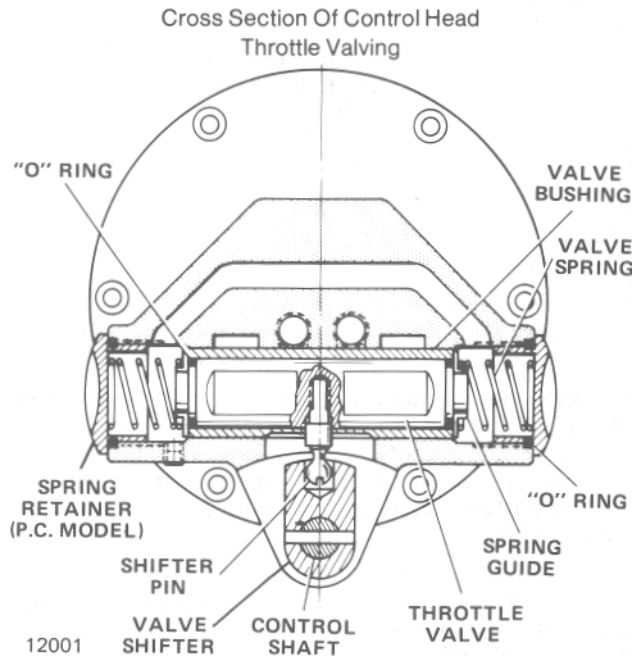
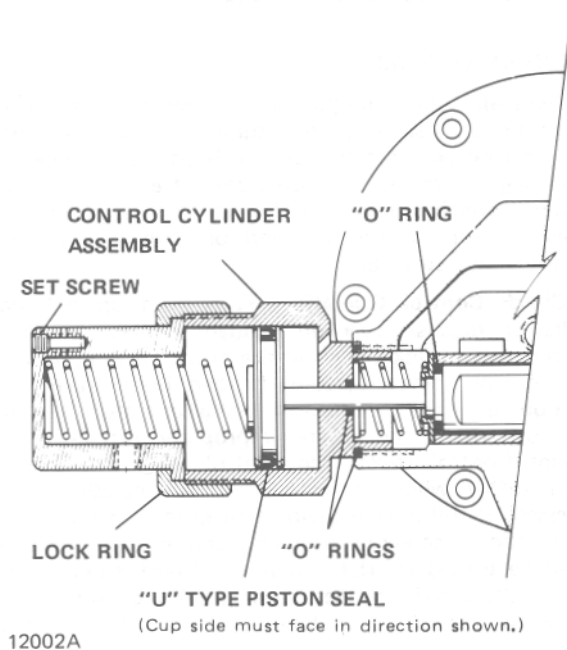

Figure 7-13. Section View Showing Assembly of Throttle Valve, Springs and Valve Shifter in Control Head.
Figure 7-14. Section View Showing Assembly of Control Cylinder on Control Head (Pendant Throttle Control Models).
(2) Lift muffler and screen from recess in control head housing.
(3) On pendant throttle control models, remove control cylinder assemblies from each side of control head housing (Figure 7-14). On pull cord control models,
remove throttle valve spring retainer caps from each side of housing (Figure 7-13). Valve springs, spring guides and "O" ring seals can now be removed from valve bore at each side of housing.
(4) The throttle valve is retained in the control head by the valve shifter pin. The pin is assembled with LOCTITE on the threads and should not be removed for routine servicing. If valve is to be removed, use a hex key to remove pin from bottom of throttle valve. (See Figure 7-13.) The valve can now be removed from bushing in housing. The throttle valve bushing is pressed into place and honed to provide a .0001 to .0003 inch clearance with valve. If bushing is scored, worn, or otherwise damaged, the housing and bushing assembly should be replaced along with the valve.
(5) Remove air inlet swivel body and bushing from top of housing. Retain bushing gasket for reuse. Pull strainer screen from housing bore.
(6) Remove retaining ring from bottom of swivel body and pull off bushing. Remove "O" ring seal from its groove in bushing.
(7) Disassemble control cylinder (pendant throttle control models) by removing cylinder lock ring. Cylinder and cap will come off with lock ring. Lift out spring and then remove piston and seal assembly from cylinder. Piston shaft "O" ring seal and retainer washer will drop out as piston is removed.
(1) Lightly oil throttle valve and bushing with S.A.E. 20 oil. If shifter pin was removed from valve, assemble valve with threaded hole facing slot at bottom of bushing in housing (Figure 7-13). Shifter pin should be assembled with LOCTITE. Extreme care must be taken not to get any LOCTITE on valve outside diameter since this will lock up valve and scrap the complete head assembly.
(2) Use new "O" ring seals at each end of valve. Install spring guides and valve springs in bores on each side of housing and secure with spring retainer (pull cord models) or control cylinders (pendant throttle control models). Use new "O" ring gaskets.
(3) At reassembly of control cylinders (pendant throttle control models), use new "U" type seals on piston heads and "O" ring seals on piston stems. Be sure "U" type seals face direction illustrated in Figure 7-14.
(4) Use new "O" ring gaskets on adjusting screws. When installing screws in control head housing, turn them in until heads are flush or slightly below face of housing. Adjustment is accomplished during testing of hoist, paragraph 2-4.
(5) At reassembly of screen and air inlet swivel, install a new "O" ring seal inside swivel bushing.
(6) In mounting control head housing on hoist, use a new motor-to-head air seal gasket and a new head-to-frame gasket.